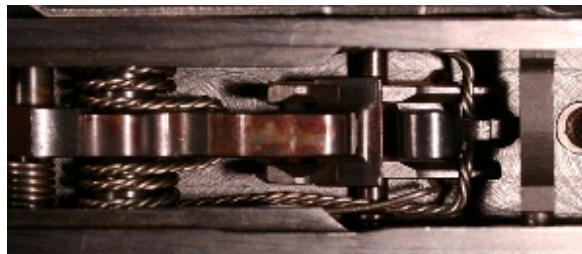

Figure 71. The Hammer in the Cocked Position.
- m. Push the hammer down until it locks in the cocked position. Refer to Figure 71.